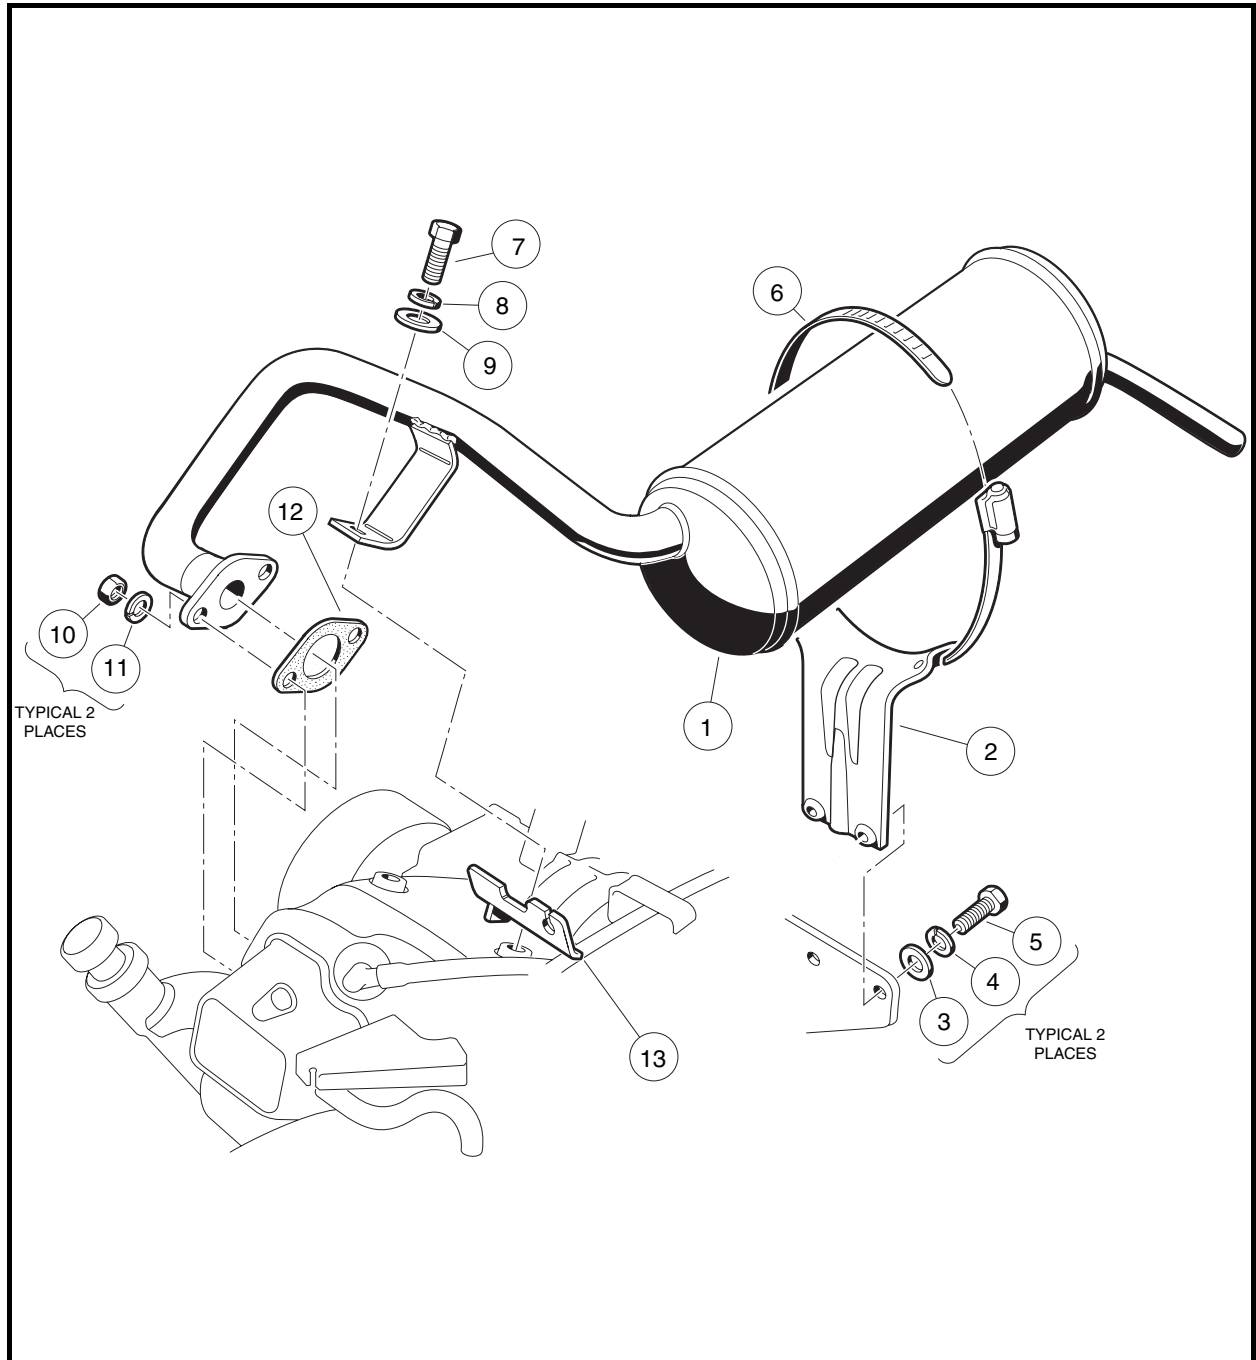

Figure 15-1 Exhaust System – FE400 Engine
4. Remove the muffler clamp (6) from the muffler (1) and clamp bracket (2) (**Figure 15-1, Page 15-2**).
5. Remove the hex-head cap screw (7), lockwasher (8), and flat washer (9) from mounting bracket. Retain the governor cable bracket (13).
6. Remove the hex nuts (10) and lockwashers (11) from the manifold.
7. Remove the muffler (1) from the vehicle.
NOTE: Any time the muffler is removed from the vehicle, install a new muffler clamp (6) (CCI P/N 1017689) and muffler gasket (12) (**Figure 15-1, Page 15-2**).
1. Loosely attach muffler (1) to muffler bracket (2) with clamp (6) (**Figure 15-1, Page 15-2**).
2. Place a new gasket (12) on the cylinder block exhaust stud bolts.
3. Attach muffler manifold with lockwashers (11) and hex nuts (10) and tighten finger-tight
4. Loosely attach muffler (1) mounting bracket and governor cable bracket (13) using hex-head cap screw (7), lockwasher (8) and flat washer (9). **See following NOTE.**